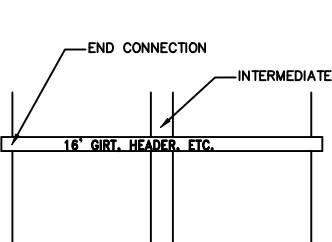

Figure 210-1
3. An end connection is at the end of the piece of lumber. An intermediate connection is where a piece of lumber is fastened to another member at a point between the ends. For an example see figure 210-1.